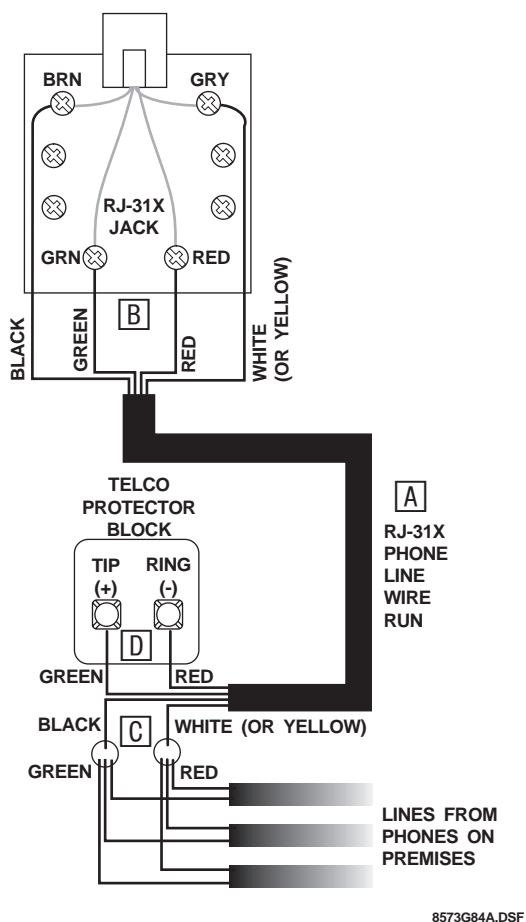

Figure 33. Installing an RJ-31X Phone Jack
1. Run a 4-conductor cable from the TELCO protector block to the jack location (see [A] in Figure 33).
2. Connect one end of the cable to the jack (see [B] in Figure 33).
3. At the TELCO protector block, remove the premises phone lines (lines from phone jacks on premises) from the block and splice them to the black and white (or yellow) wires of the 4-conductor cable (see [C] in Figure 33).
4. Connect the green and red wires from the 4-conductor cable to the TIP (+) and RING (-) posts on the block (see [D] in Figure 33).